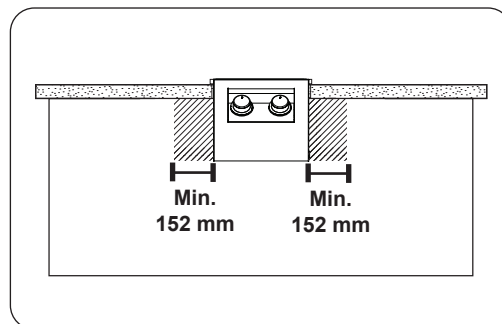

Fig. 13-1 Control panel clearances
- The control panel **MUST** have a minimum side clearance of 152 mm from any obstructions/side walls. See Fig. 13-1.